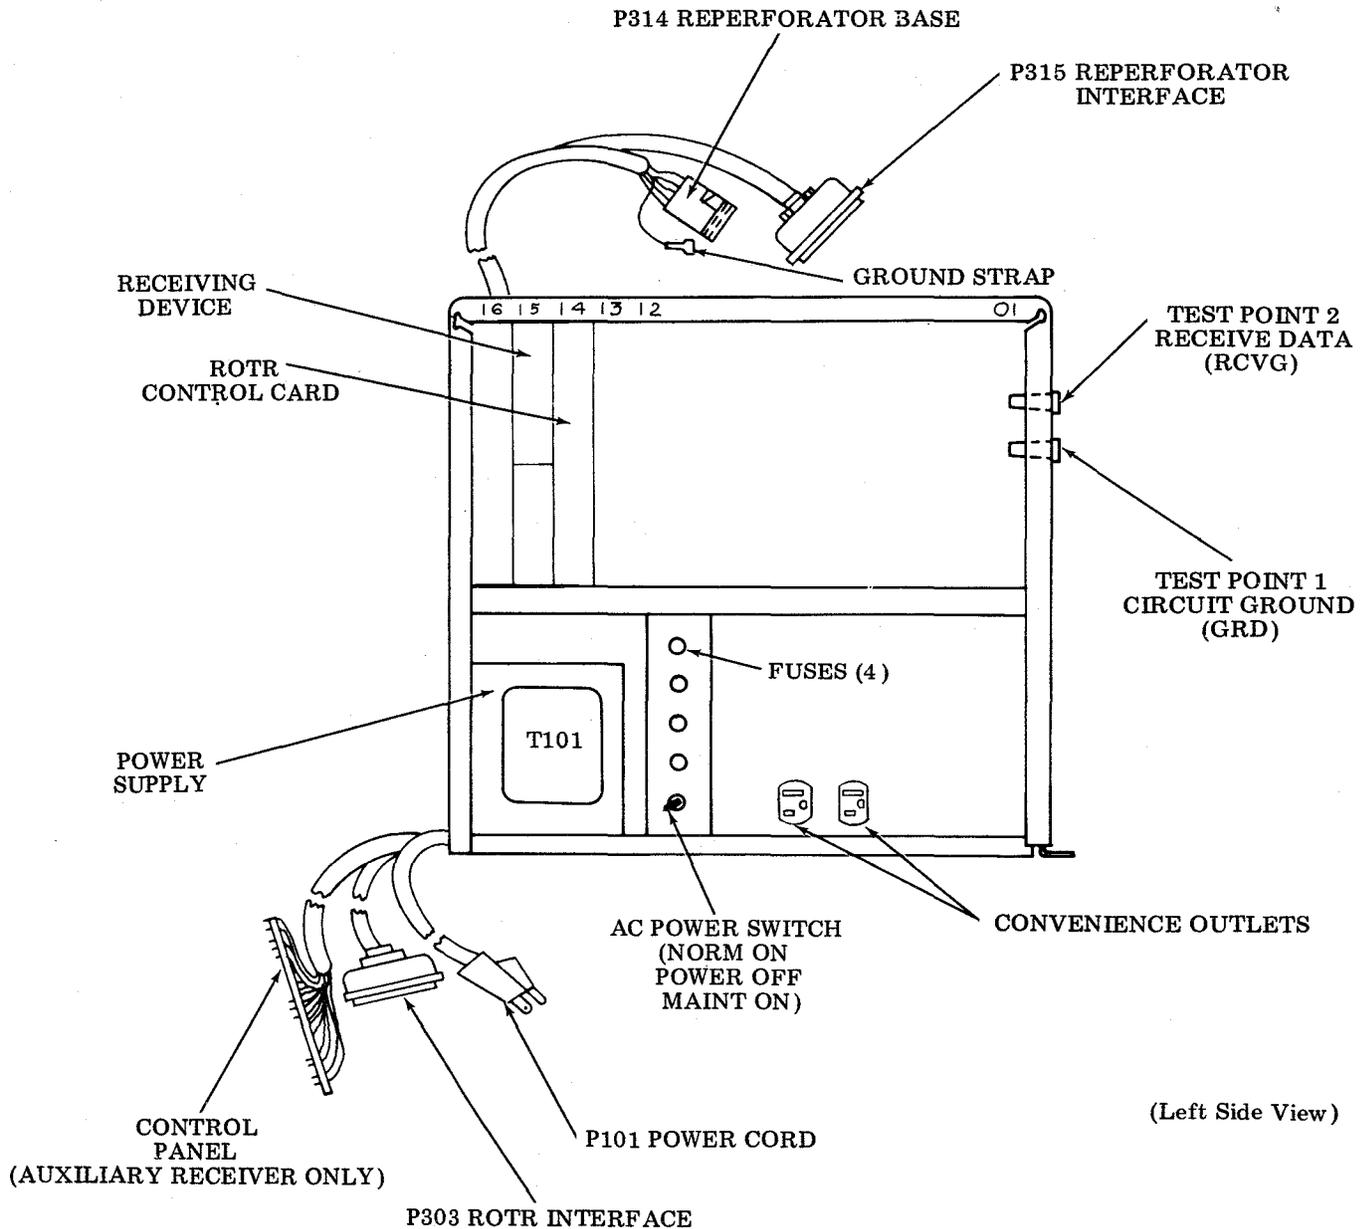

Figure 4 - 37 ROTR Electrical Service Unit
5.02 All reperforator adjustments can be found in Section 574-330-700. The appropriate paragraph is usually indicated in parenthesis. Figure 4 shows the YESU814 ROTR Electrical Service Unit.